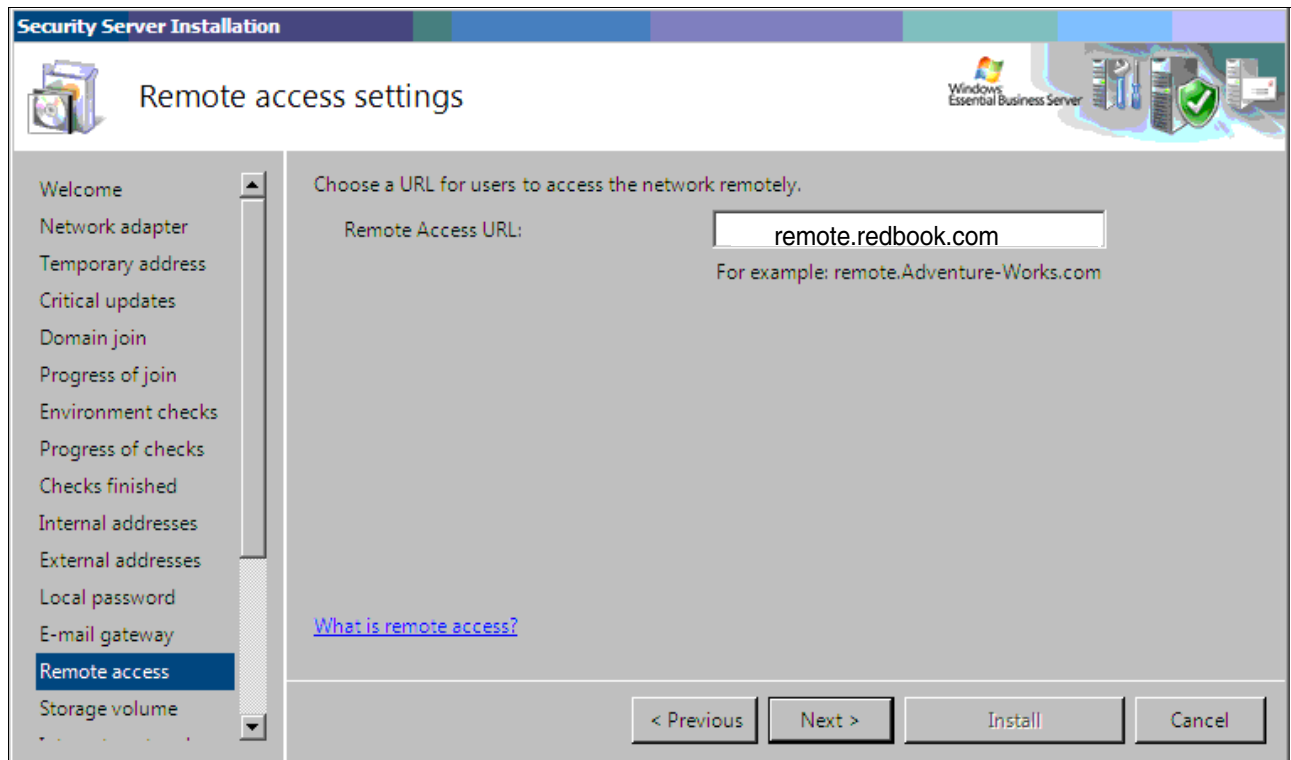

Figure 4-31 Remote access settings
21. On the “Remote access settings” panel (Figure 4-31), set up remote access to your network through services (such as Remote Web Workplace) and through e-mail services (such as Outlook® Web Access or Outlook Anywhere). Choose a URL that is easy to remember, such as remote.redbook.com. Click **Next**.